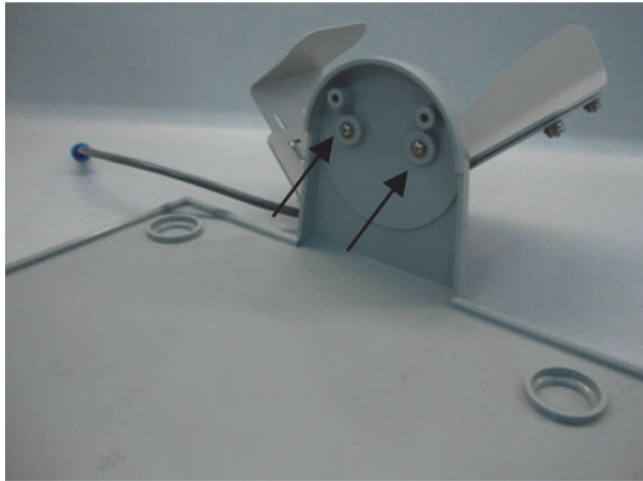

Figure 2
Attach the water bottle holder to the base tray using the (2) small screws and small hex key. See figure 2.